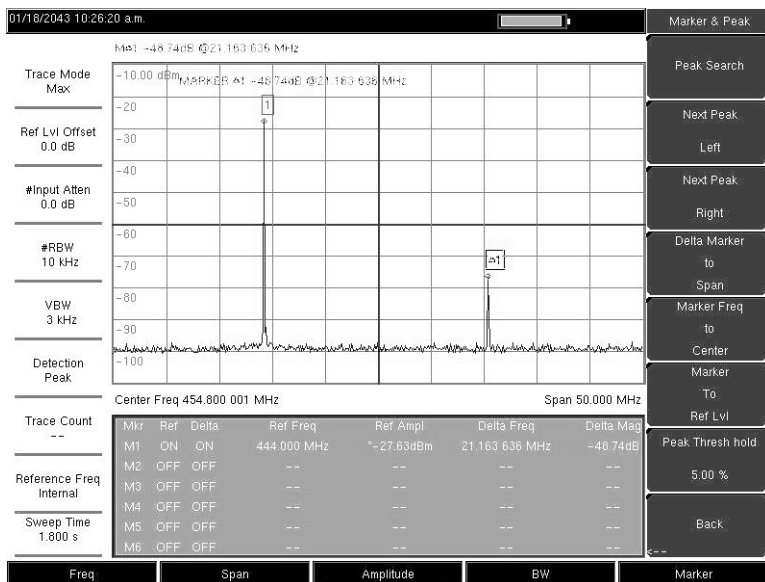

Figure 4-4. Simulated Out-of-Band Spurious Emission Measurement
10. Repeat Step #8, and Step #9, for the remaining spurs. Use either Marker 1 again, or choose another marker. Figure 4-4 shows a simulated out-of-band spurious signal 21.000 MHz from the carrier using a delta marker.